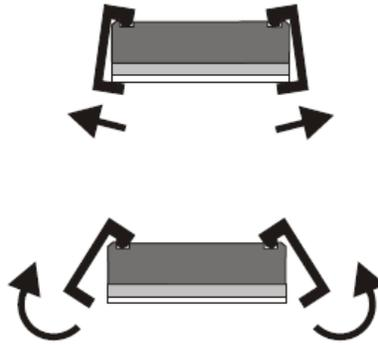

Figure 10
10. Remove the clips by pulling them away from the slide side of the module as shown in Figure 10.